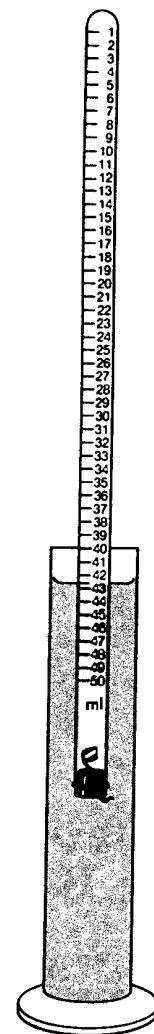

Figure 3
10. When the Mg has disappeared entirely and the reaction is complete, cover the stopper hole with your finger again and carefully transfer the eudiometer tube to a 1000 mL graduated cylinder or other tall vessel that has been filled with water. Be sure that no water escapes from the eudiometer tube during this transfer process. Adjust the height of the eudiometer tube inside the cylinder until the water level in the eudiometer is exactly the same as that in the cylinder. Read as accurately as possible the volume of gas in the eudiometer and record this reading. See figure 3.